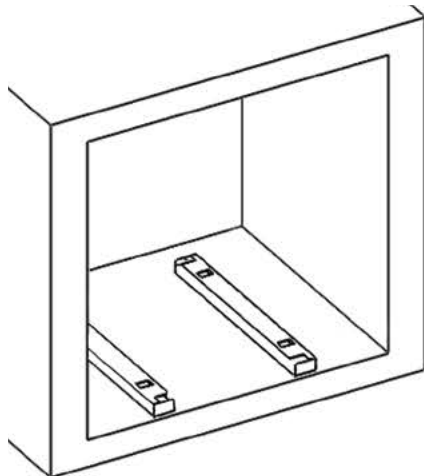

Figure 1
1. Lay the support beams flat on the bottom of the cabinet cutout with the open sides facing each other (see *Figure 1*).